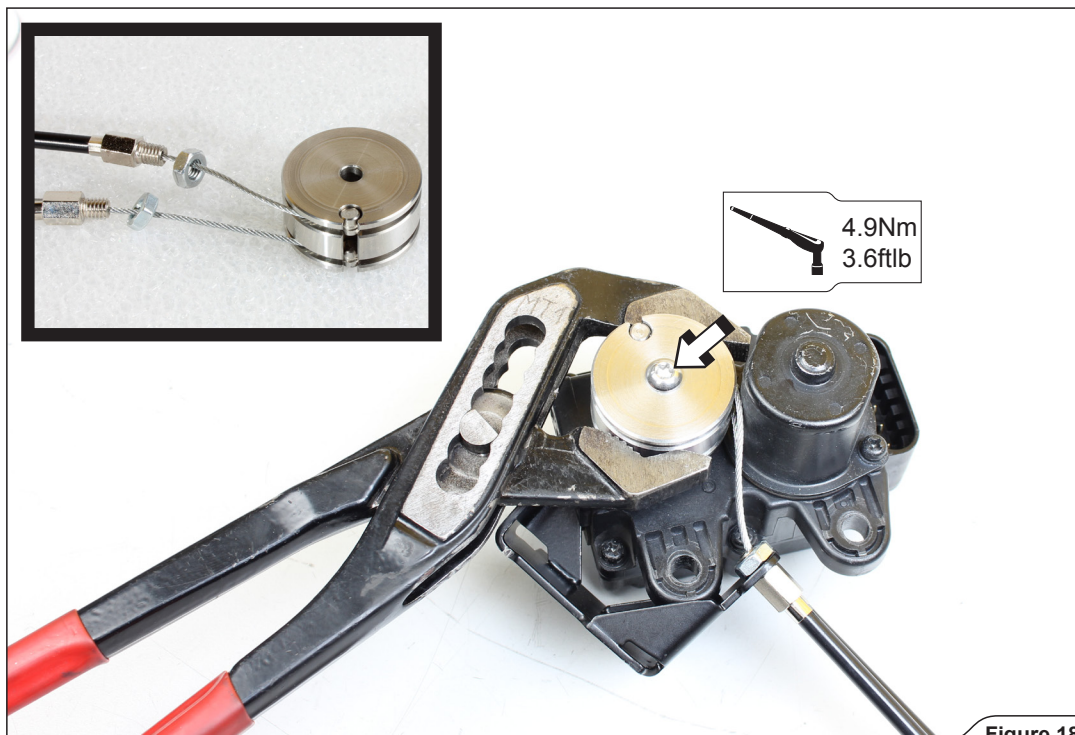

Figure 18
1. Hook the cables onto the cable wheel, correctly position/orient the wheel and cable bracket. Tighten the wheel onto the servo motor (Figure 18).